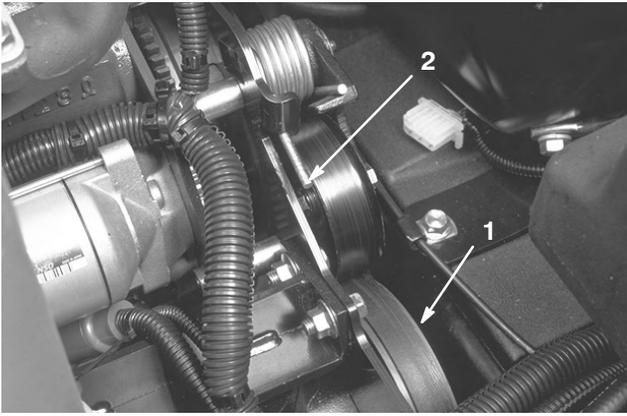

Figure 48
2. Push down and forward on the spring end (Fig. 48) to unhook it from the bracket and release tension on the spring.